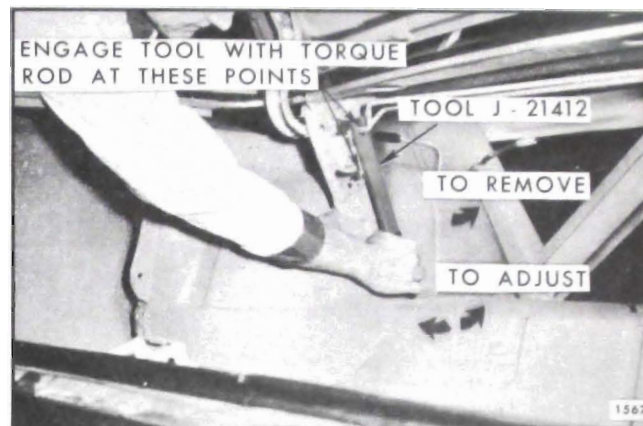
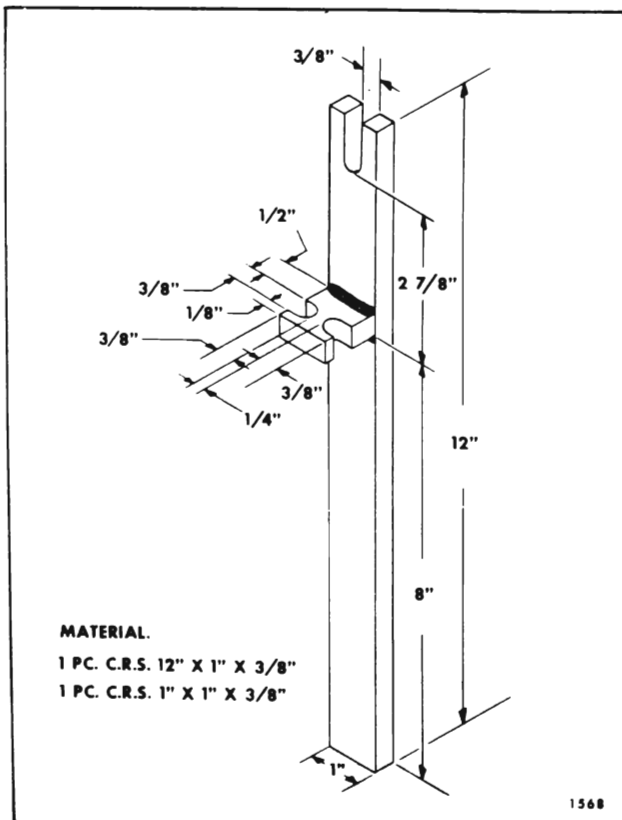

Fig. 8-5 —Rear Compartment Torque Rod Adjustments
Fig. 8-7 —Rear Compartment Torque Rod Adjusting Tool
4. Disengage torque rod from notched retainer on inboard face of opposite side hinge box. On “B, C & E” Styles, except 39487, 39687 and 49487 use 1/2" I.D. pipe; on “A & X” Styles use tool J-21412 as shown in Figure 8-5.
On “B & C” and 69347 “E” Styles adjust rod with a length of 1/2" I.D. pipe. On “A & X” Styles use tool J-21412 as shown in Figure 8-5. If tool is not available, fabricate equivalent as shown in Figure 8-7. On 39487, 39687 and 49487 “E” Styles, use